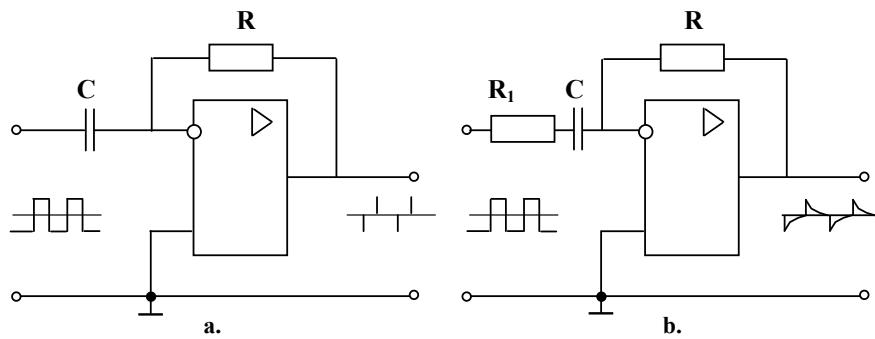

Fig. 2.39
**Differentiators.** Fig. 2.39,a illustrates the op amp *differentiator* or *D-regulator*. A differentiator is a circuit that performs a calculus operation called differentiation
One drawback of this circuit is its tendency to oscillate with a *flywheel effect*. To avoid this, a differentiator usually includes some resistance in series with the capacitor, as shown in Fig. 2.39,b or across the capacitor. A typical value of this added resistance is between 0,01  $R$  and